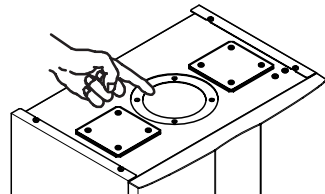

Fig. 7.7
**Fill the built-in condensate trap by removing the flue elbow and pouring a cupful of water into the flue outlet (Fig. 7.7). Warning do not allow water to enter the outer air intake.**